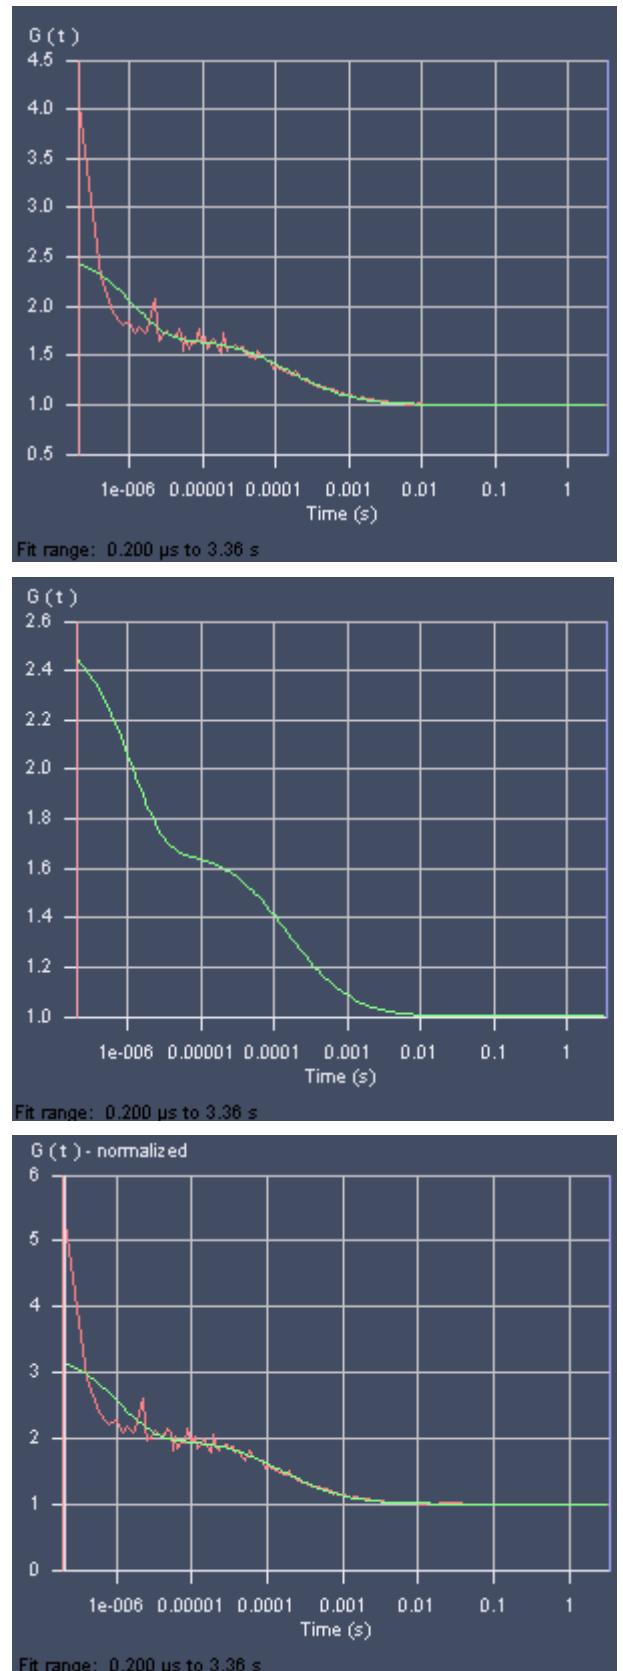

Fig. 9-105 Fit Correlation Curve (standard display), with fit curve only, in normalized form
- Select **Normalize** to display the correlation curves in a normalized form (Fig. 9-105). The amplitude of the diffusion contribution will be normalized to 2, not the total amplitude, if other term like triplet state were used in their normalized form. This option is only available for the **Fit Correlation** diagram.